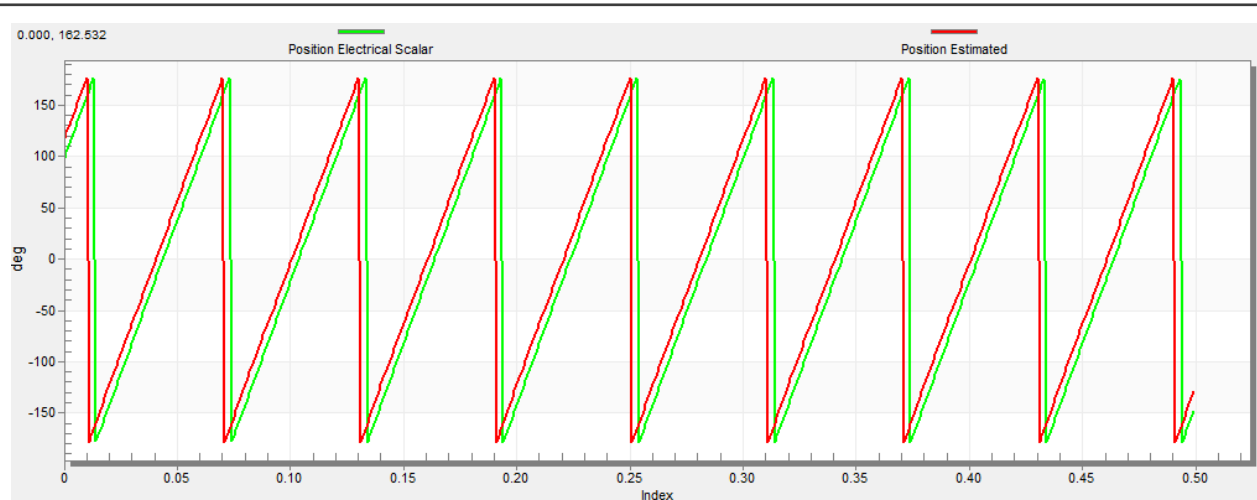

Figure 25. Generated and estimated positions
- Select the “Position” recorder to check the observer functionality. The difference between the “Position Electrical Scalar” and the “Position Estimated” should be minimal (see Figure 25) for the Back-EMF position and speed observer to work properly. The position difference depends on the motor load. The higher the load, the bigger the difference between the positions due to the load angle.